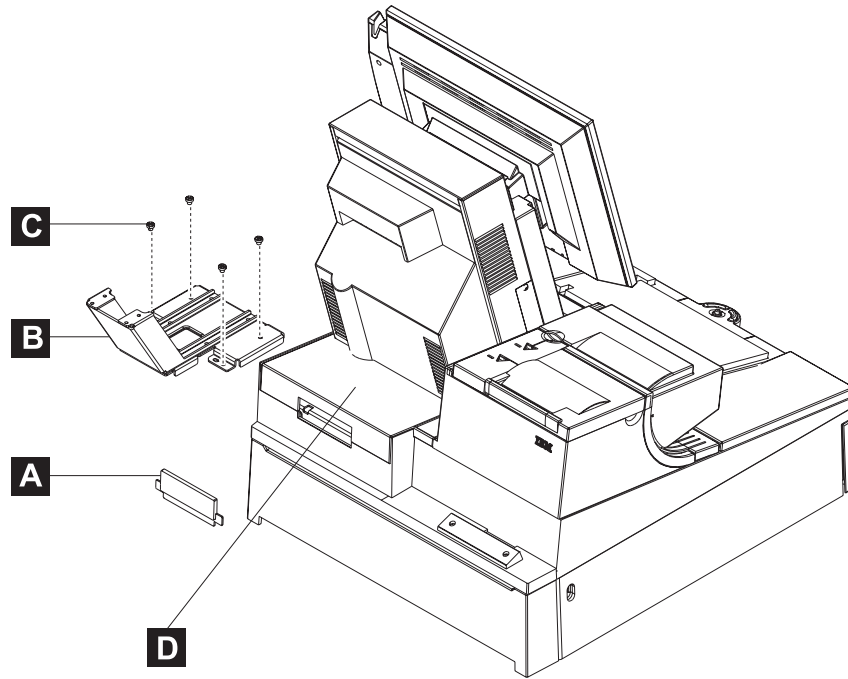

Figure 106. 4820 SurePoint Solution base plate removal from the keyboard integration tray
- Remove the 4820 base plate **B** from the SurePOS 500 Models 5x3 and 544/564 base plate by removing the four screws **C**, as shown in Figure 106.
Note: If you are permanently removing the 4820, you must install the small filler panel **A** located at the rear of the keyboard integration tray, as shown in Figure 106.